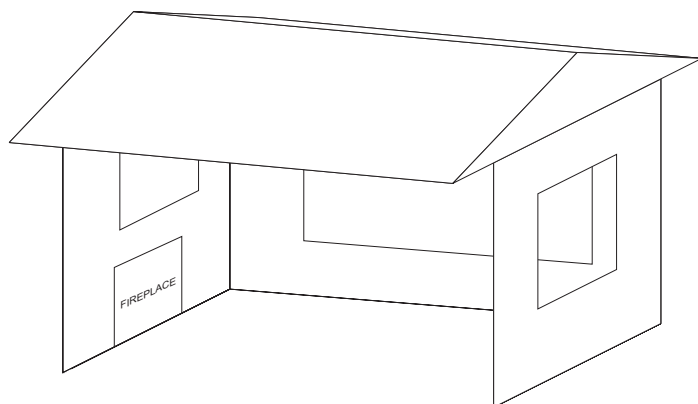

Figure 12
- Within a partial enclosure that includes an overhead cover and three side walls, as long as 30 percent or more of the horizontal periphery (perimeter of walls and open side) of the enclosure is permanently open. **See Figure 12.**